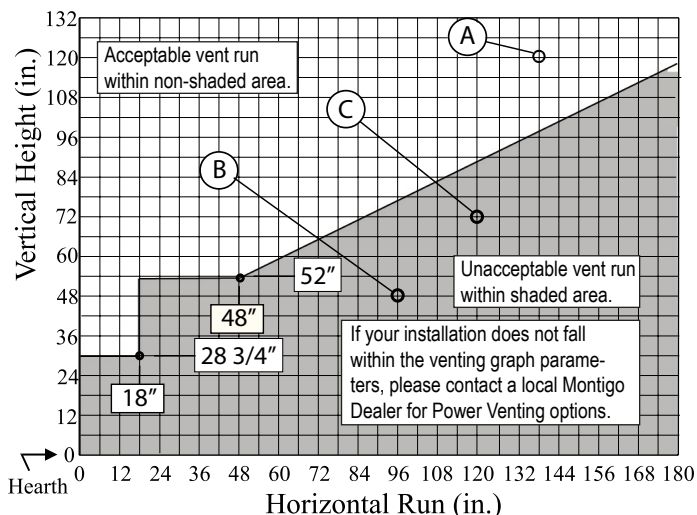

Figure 15. Rear Vent Venting Graph for wall mounted terminations.
- Venting runs *must* fall within the limits set by the venting graphs, see **Figure 15**.
Measure the vertical height from the fireplace hearth to the centre of the termination and the horizontal run from the fireplace flue collar to the wall flange of the termination. Plot on the Venting Graph **Figure 15** with an 'X'. If the 'X' falls on or above the top boundary of the shaded area, the installation is acceptable.
Figure 16a. H\*38DF\* Rear Vented, wall mounted Multi-elbow termination installation. The vent run must comply with the Venting Graph for Rear vent, wall mounted terminations, Figure 15.